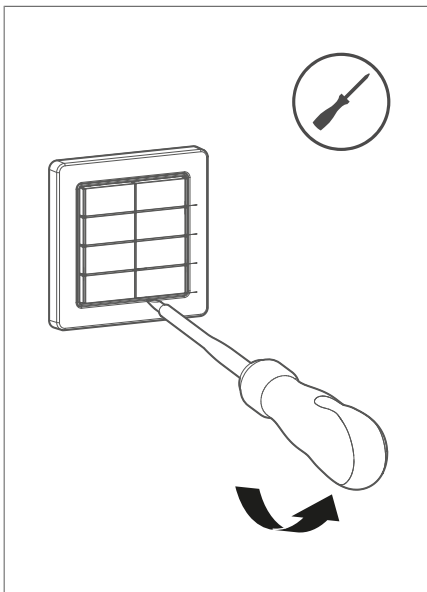

Fig. 18: Removing the buttons
- ① Remove the buttons from the push-button module (see Fig. 18).